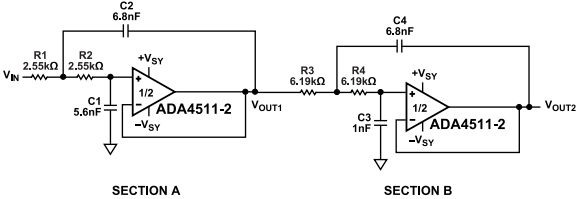

Figure 87. 4-Pole Low-Pass Filter with  $-3\text{ dB}$  Bandwidth of  $10\text{ kHz}$
The high-input impedance, high bandwidth, low-input bias current, and DC precision make the ADA4511-2 a good fit for active filter applications. Figure 87 shows the ADA4511-2 in a 4-pole Sallen-Key Butterworth low-pass filter configuration. The 4-pole low-pass filter has two complex conjugate pole pairs and is implemented by cascading two 2-pole low-pass filters. Section A and B are configured as 2-pole low-pass filters in unity gain. Table 7 shows the quality factor (Q) requirement and pole position associated with each stage of the Butterworth filter. For pole locations on the s plane and Q requirements for filters of a different order, refer to the Chapter 8, Analog Filters, in the Linear Circuit Design Handbook, available at [www.analog.com/AnalogDialogue](http://www.analog.com/AnalogDialogue).